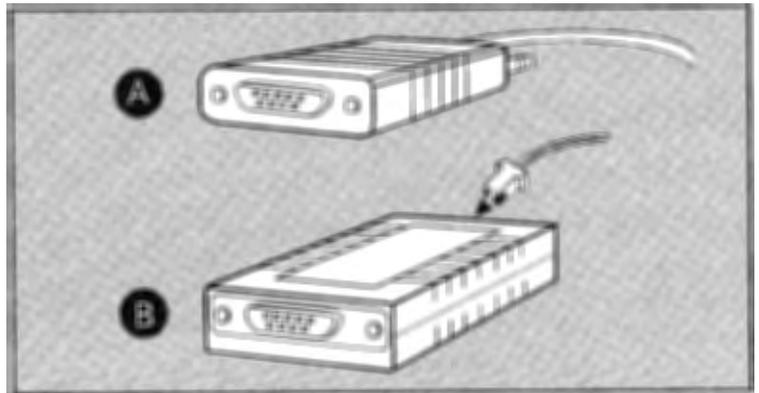

Figure 3-17. Determining the Connection Type
2. Determine the type of connection you want to use to connect your adapter card to your network and get the appropriate cable. See Figure 3-17.
- a. To attach to a shielded twisted-pair network, you will need a shielded twisted-pair Token Ring interface cable. See (A).
- b. To attach to an unshielded twisted-pair network, you will need a Type 3 Media Filter in addition to an unshielded twisted-pair cable. See (B).